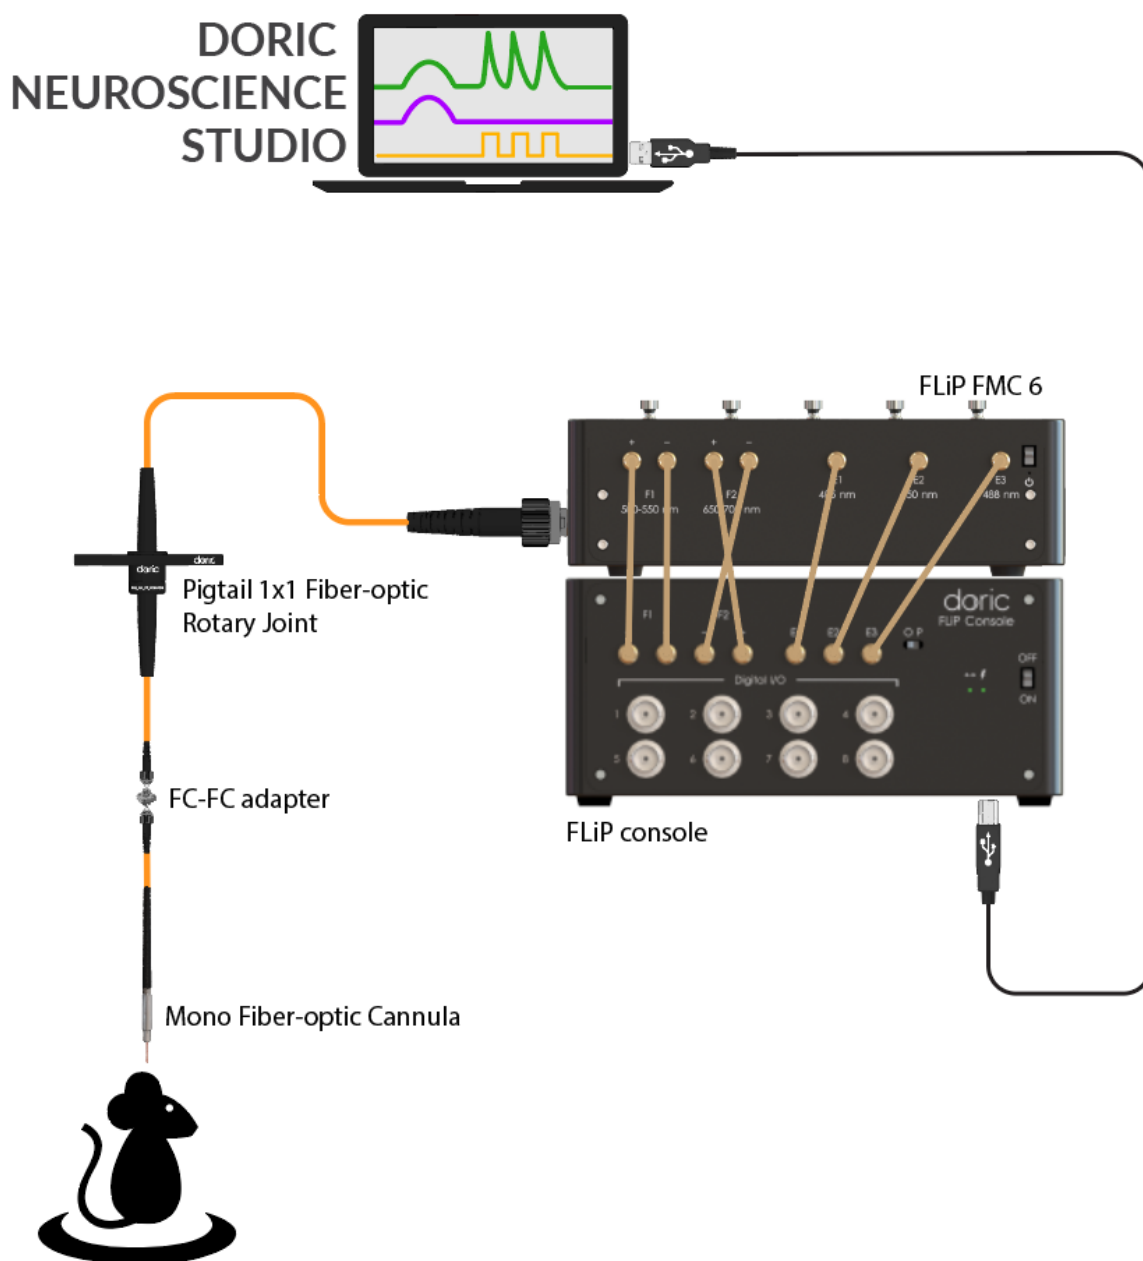

Figure 2.1: *FluoPulse™* System Schematic
1. **Sample port (S)** (FC/PC receptacle): Connects to a *Low-Autofluorescence Patch Cord* or a *Pigtailed Rotary Joint* going to the animal. The sample fiber port is an FC/PC optical fiber port where the fiber accessing the sample is inserted. We recommend using a 400 μm core diameter fiber to maximize signal collection and with 0.37 NA to minimize autofluorescence.
2. **Laser excitation ports (E)** (SMA connector): Excitation ports E1, E2 and E3 connect to the corresponding E ports of the *FluoPulse™ Console*. These ports receive digital trigger signals that initiate laser pulses. *FluoPulse™ Cube* has slots for up to three lasers. Depending on the configuration, the slots can be populated with diode lasers emitting at 405 nm, 450 nm, or 488 nm.
3. **Optogenetics port (O)** (FC/PC receptacle): Connects the cube to a light source using a patchcord to allow for simultaneous optogenetic stimulation of the recorded site in the animal. This is an optional port placed opposite to the sample port. It is intended for 560-570 nm or 630-640 nm light sources. The optogenetic light source is only possible if there is no spectral overlap with the second detection window.
4. **Fluorescence Detector Emission ports (F)** (dual SMA connectors): Two coaxial cables connect to the corresponding F ports of *FluoPulse™ Console*. These ports send the lifetime waveform signal from the detectors to the console. It is important to match the polarity of the detector outputs and inputs on the *FluoPulse™ Cube* and *Console*. In some configurations, the order of polarity is different and the coaxial cables will cross to match “-” with “-” and “+” with “+” (as in Fig. 2.1).
- **Neutral Density Filter:** Every laser has a filter slot for a Neutral Density (ND) filter. In case the laser excitation is too high for a specific sample, it is possible to attenuate a particular laser by inserting ND filters in the respective slot. The following ND filters are provided with the *FluoPulse™ Cube*: 10% & 25% transmission filters. Note that the power at the sample depends on the fiber type and other components inserted in the optical path as well.
1. **Excitation ports (E)** (SMA connector): Excitation ports E1, E2 and E3 connect to the corresponding E ports of the *FluoPulse™ Cube*. These ports send a digital trigger signal that triggers the corresponding laser.
2. **Fluorescence Detector Emission ports (F)** (dual SMA connectors): Twin coaxial cables connect to the corresponding F ports of *FluoPulse™ Cube*. The Console can connect up to two detectors on the *FluoPulse™ Cube* (F1 and F2). It is important to match the polarity between the *FluoPulse™ Cube* and Console. In some configurations (FLP6), the order of polarity is different, and the coaxial cables will cross to match “-” with “-” and “+” with “+” (as in Fig. 2.1).
This section details the step-by-step instructions to set-up a complete *FluoPulse™* system, as in the schematic in Fig. 2.1: